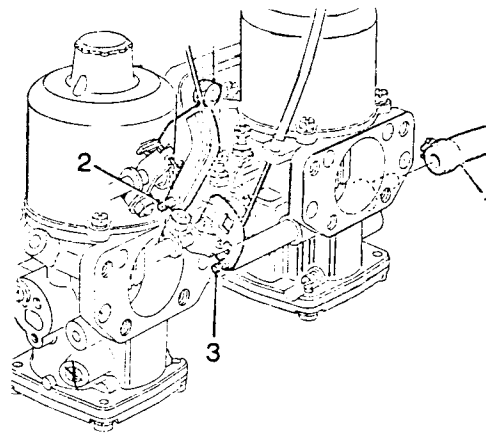

Fig B4.8
- (16) Refer to Fig B4.8. Disconnect the fuel feed (1) at the carburettor.
- (18) Disconnect the accelerator cable at the carburettor. (The fixing is (2) on Fig B4.8).
- (20) Disconnect the cold start control cable at the carburettor. (The fixing is (3) on Fig B4.8).